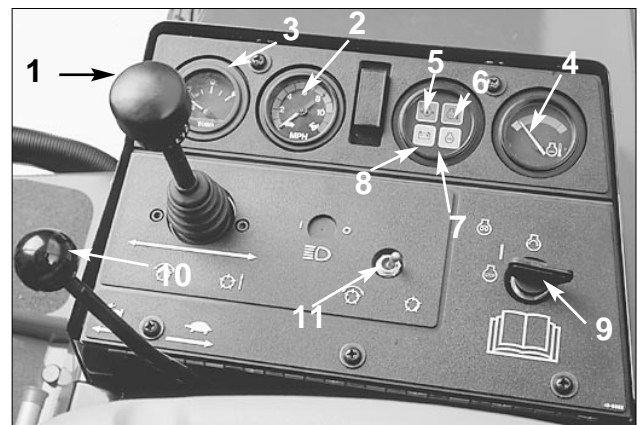

**Figure 9**
**Traction Pedal (Fig. 9)**—Controls forward and reverse operation. Depress the top of the pedal to move forward and bottom to move backward. Ground speed depends on how far the pedal is depressed. For no load, maximum ground speed, fully depress the pedal while throttle is in FAST. To stop, reduce foot pressure on traction pedal and allow it to return to center position.
**Traction Speed Limiter (Fig.9)**—Preset this lever to limit the amount the traction pedal can be depressed in the forward direction to maintain a constant mowing speed.